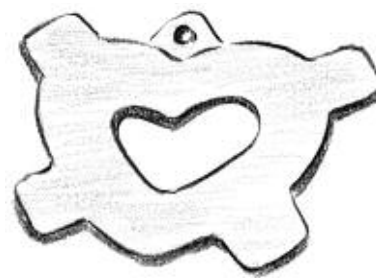

Figure 2.
Step 3. Roll out PMC, texture if desired, and trace the pattern with a needle until you cut all the way through. In this example, I cut away another heart shape in the center to reduce the weight and save PMC. (Figure 2)